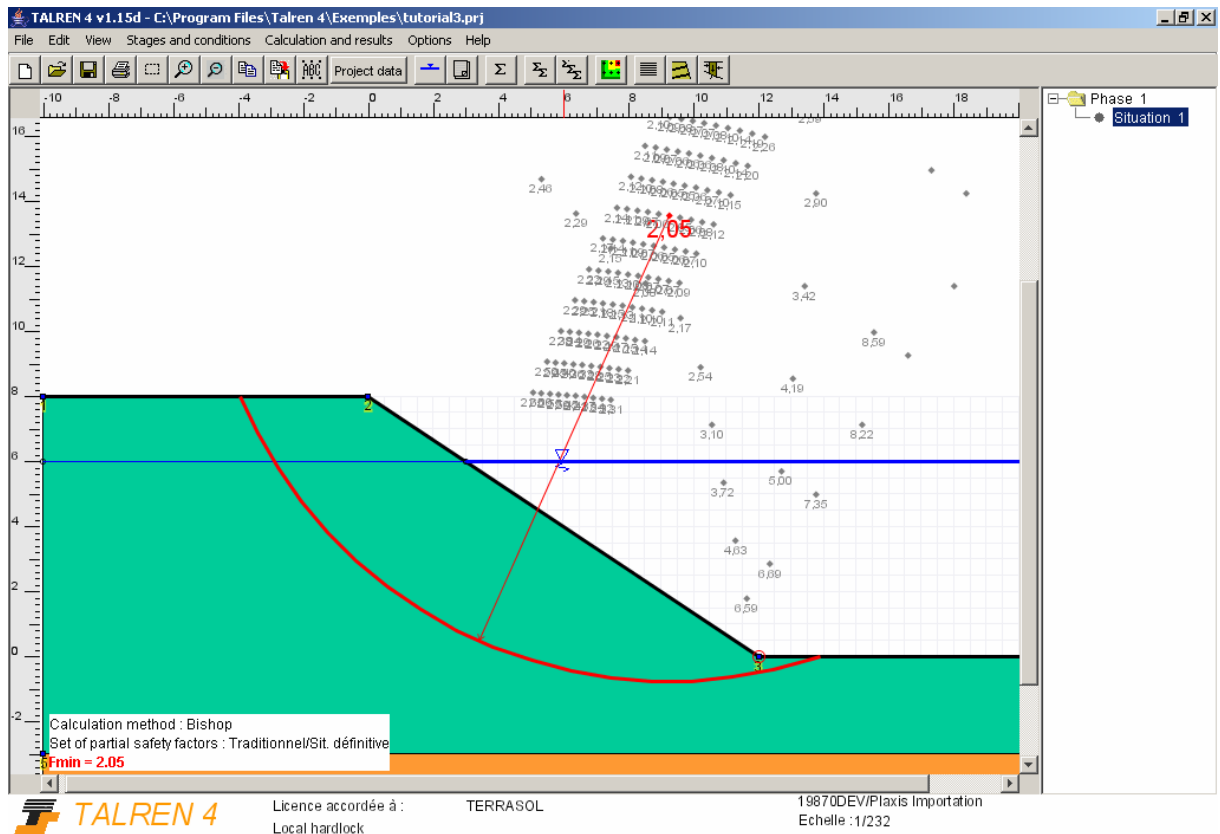

Figure 71: default output for situation 1 of stage 1
- To carry out the calculation for this situation, choose menu [Calculation] and option [Calculate the selected set of conditions] or click on the toolbar button . The calculation is performed, then the default output is displayed (Figure 71): the circles are those corresponding to the minimal value for the safety factor.